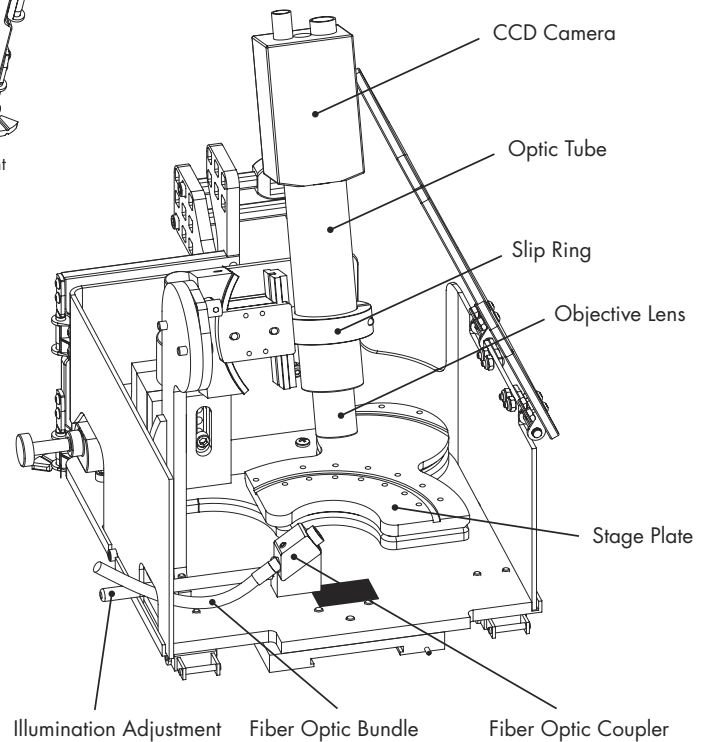

Figure 3.1B: Instrument-side view of PicoView™
- 3) Slip one end of the fiber optic bundle through the opening on the right side of the PicoView housing and into the back end of the fiber optic coupler. The coupler holds a lens which focuses the illumination on the nanospray emitter and can be adjusted to accommodate for tip position using the Illumination Adjustment knob (see Figure 3.1B on page 9).